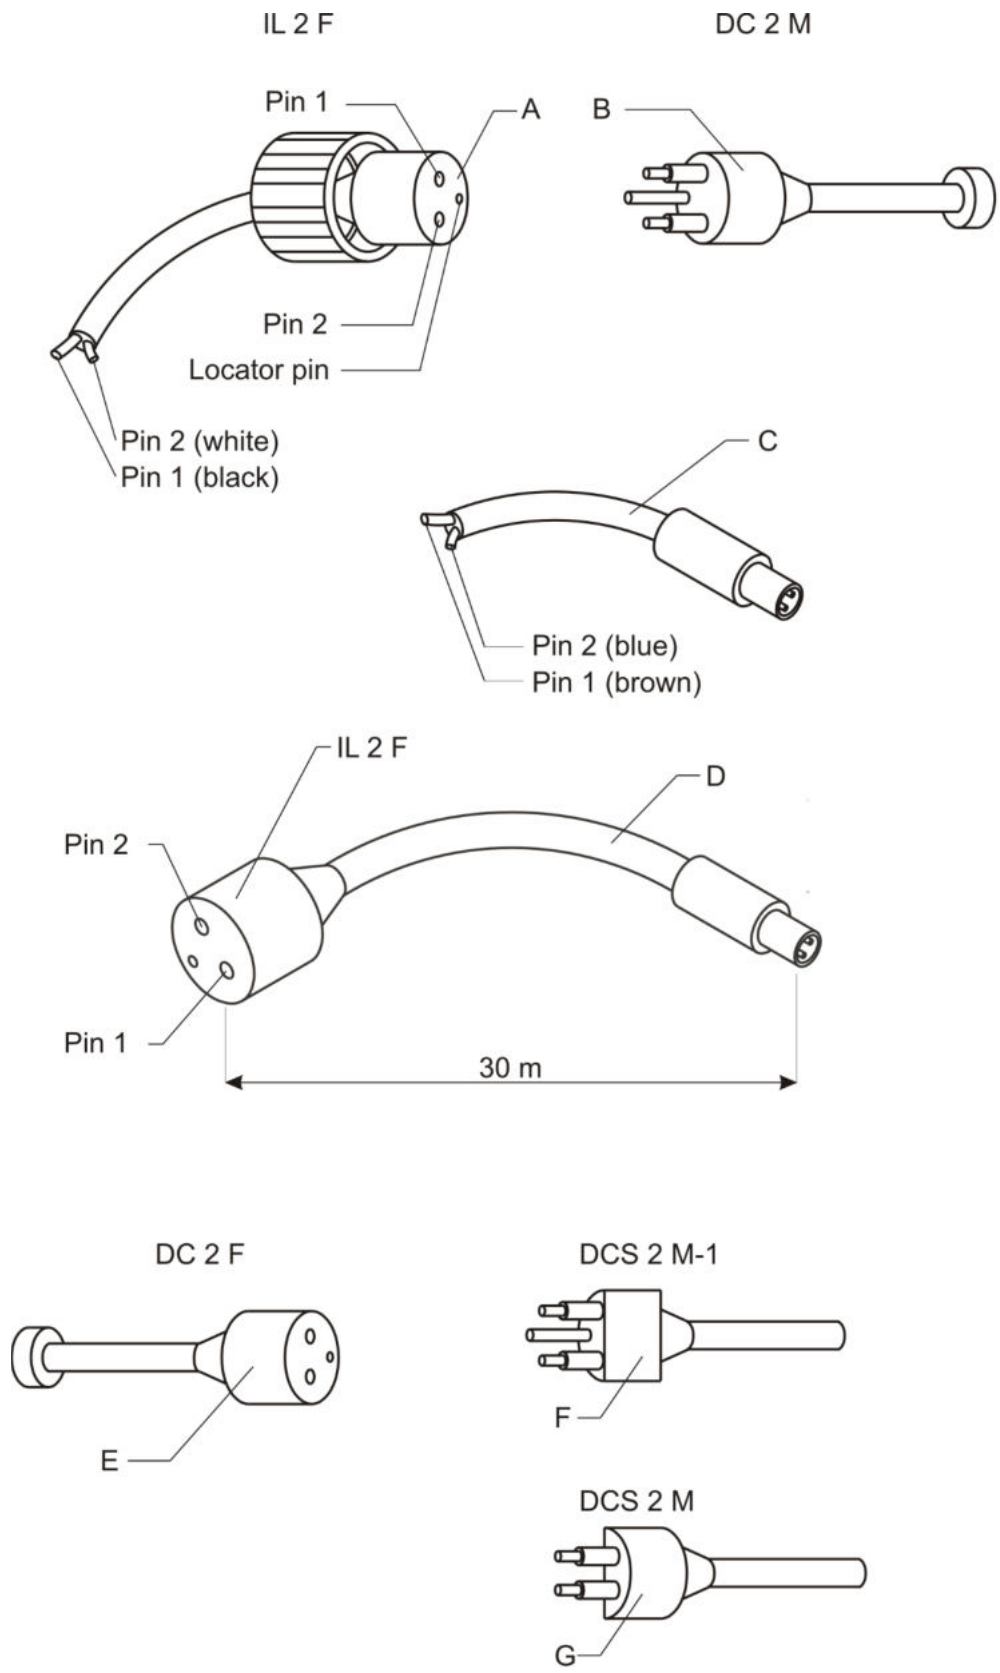

Fig 1
1. Carry out a TEST RUN (page 13, paragraph 2.) by using the test run cable (Fig. 1 D). In case of success the fault has to be located in the cable connection from Deck Command Unit to Underwater Unit.